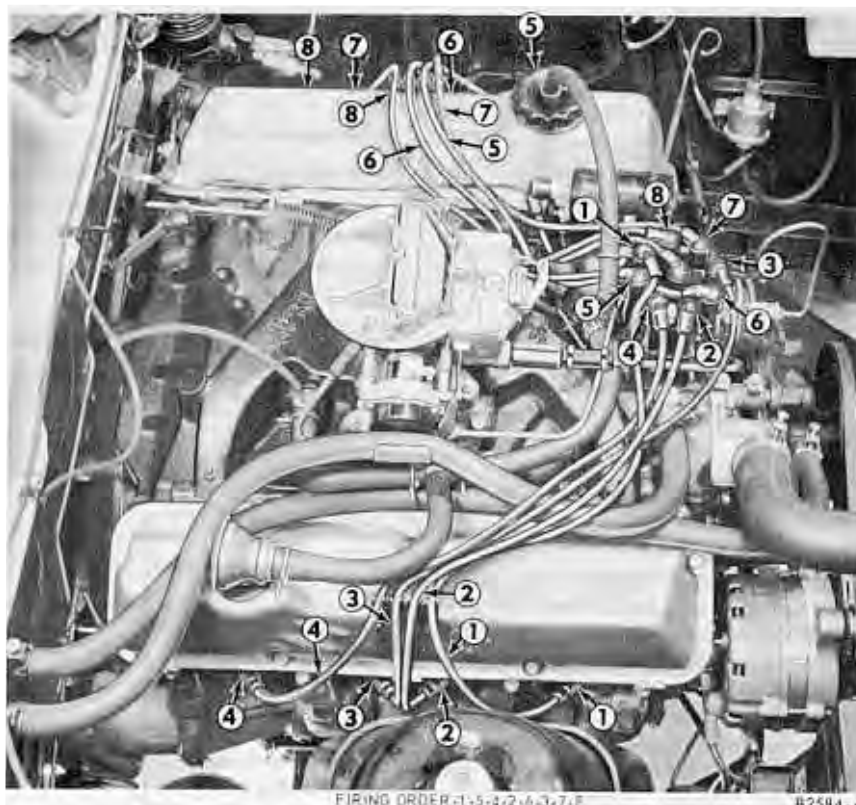

FIG. 27—Typical V-8 Engine Ignition Wiring
A typical ignition wiring installation is shown in Fig. 27.
2. Remove the brackets from the old spark plug wire set and install them on the new set in the same relative position. Install the wires in the brackets on the valve rocker arm covers. (Fig. 27). Connect the wires to the proper spark plugs. Install the coil high tension lead. **Be sure the No. 7 spark plug wire is positioned in the bracket as shown in Fig. 27.**